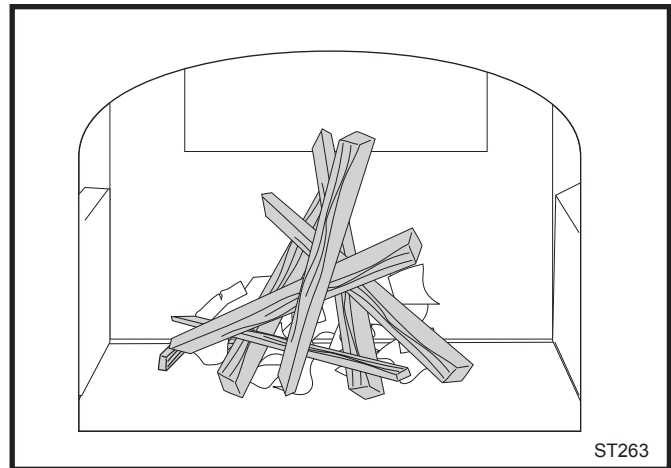

Fig. 25 Start the fire with newspaper and dry kindling.
2. Place several sheets of crumpled newspaper in the stove. Do NOT use glossy advertisements or colored paper, as they can poison the catalyst. Place on the paper six or eight pieces of dry kindling split to a finger-width size, and on the kindling lay two or three larger sticks of split dry wood approximately 25 - 50 mm (1-2") in diameter. (Fig. 25)